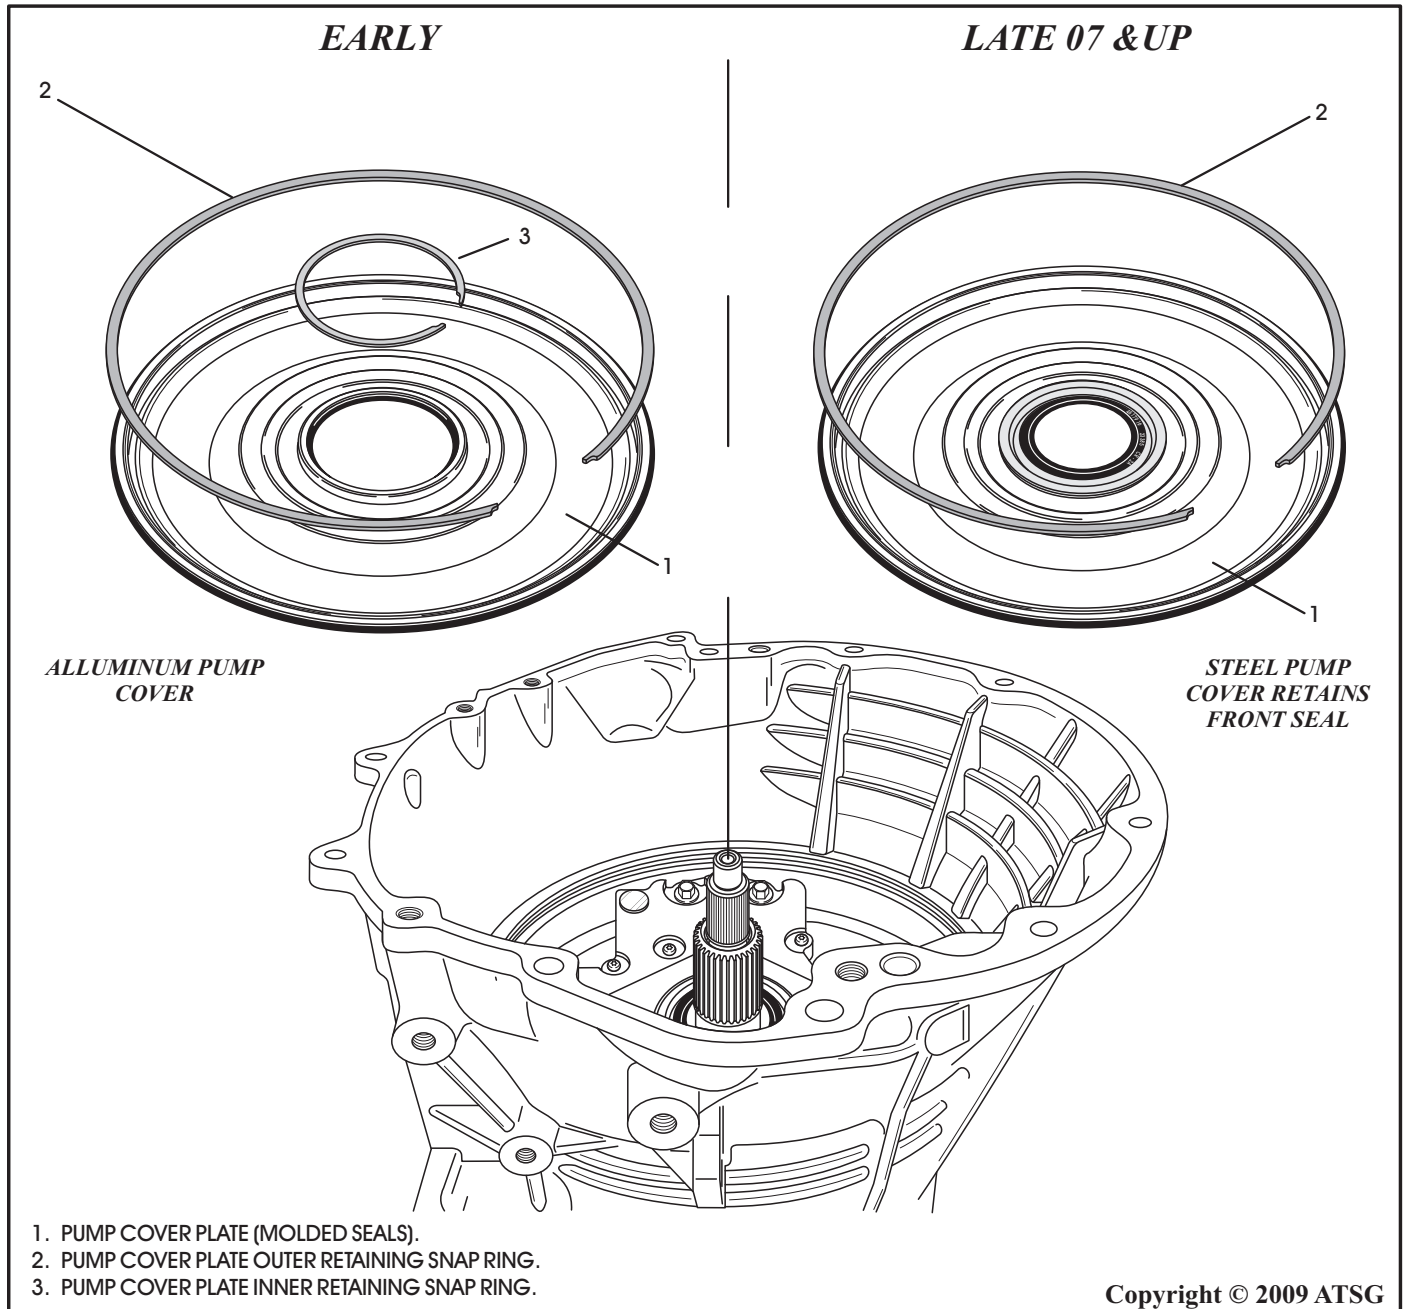

Figure 123
46. Install the transmission front cover plate which is stamped aluminum, on early models, with molded inner and outer seals as shown in Figure 123. **NOTE: 2007 & Up have changed. The new version cover is steel and the pump seal is installed into the cover which eliminated snap ring 3.**
47. Install the outer front cover plate snap ring to hold the front cover plate in the case as shown in Figure 123.
48. Install the inner front cover plate snap ring onto the oil pump assembly (See Figure 123).